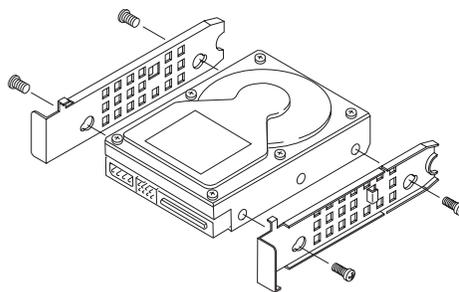

Figure 3-7. Attaching Side Rails to the Hard Drive
6. Remove the two side rails from the vacant space in the drive tray and screw them to the new hard drive. See Figure 3-7.